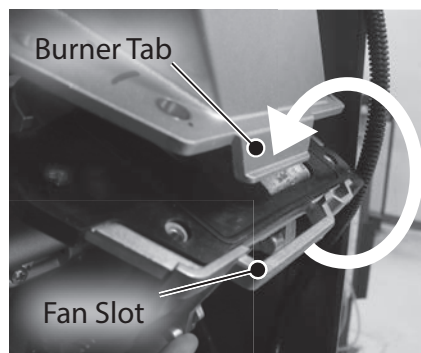

Figure 93 - Burner tab and fan slot
**NOTICE:** Confirm the burner tab engages the fan slot as shown in Figure 93.